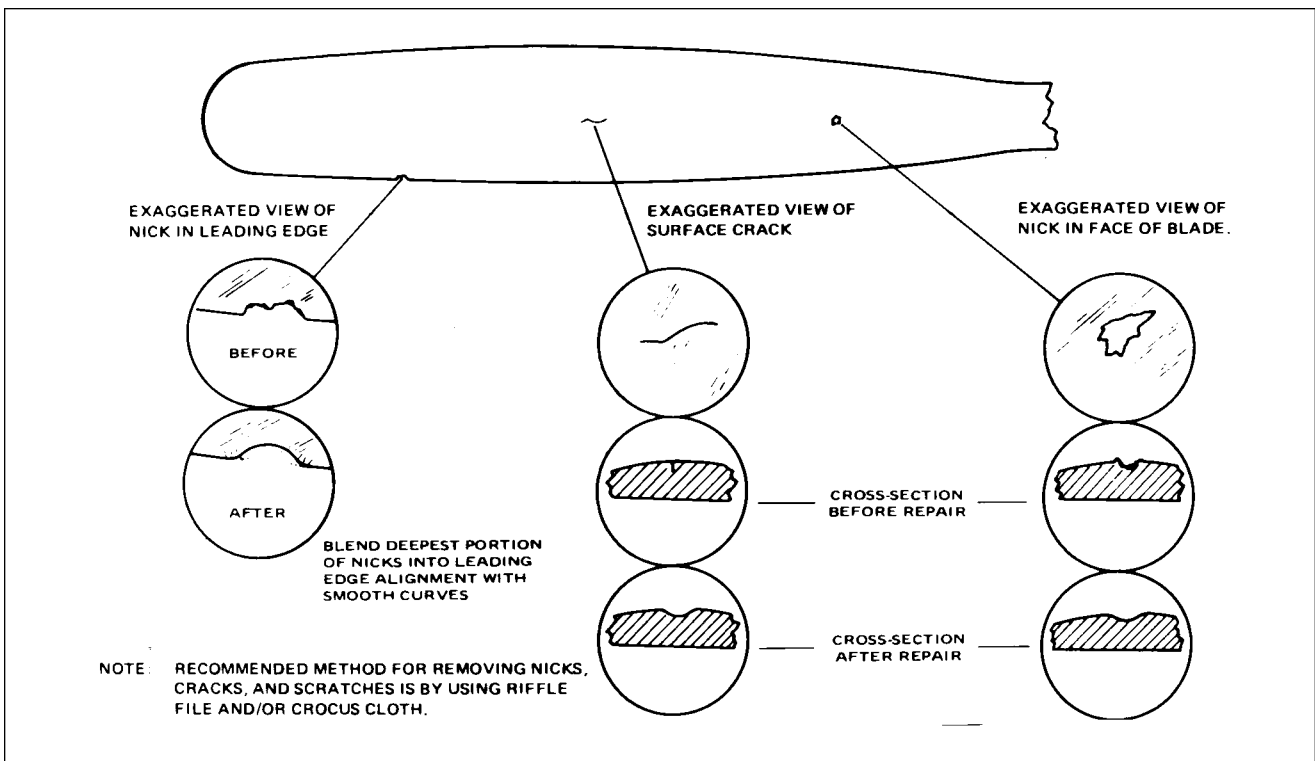

Figure 61-2. Propeller Blade Minor Repair
7. Inspect the blades for damage or cracks. Nicks in the leading edges of blades should be filed out and all edges rounded, as cracks sometimes start from such places. Use fine emery cloth for finishing. (Refer to Figure 61-2 for propeller blade care.)